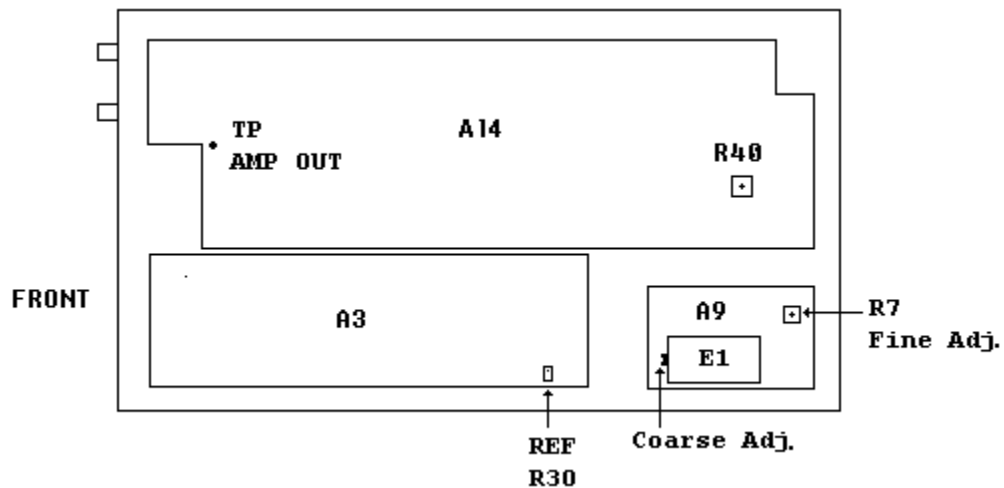

Figure 3. Test instrument - bottom view.
- (1) Disconnect TI rear panel **10 MHz OVEN OUTPUT** from **EXT REF IN** option 001 only.
- (2) Connect frequency counter **CHANNEL A** to TI rear panel **AUX 21-60 MHz**.
- (3) Press keys and enter values using **DATA** keys as listed in (a) through (c) below:
- (4) Adjust REF R30 (fig. 3) until frequency counter indicates 60.000000 MHz (R).
- (5) Disconnect frequency counter from TI rear panel **AUX 21-60 MHz**.
- (6) Connect frequency counter **CHANNEL A** to TI **SIGNAL**.
- (7) Enter **20 MHz** using **DATA** keys. Frequency counter will indicate between 19.99990 and 20.00010 MHz.
- (8) Disconnect frequency counter from TI.
- (9) Perform (10) through (14) below for option 001 only.
- (10) Program time/frequency workstation for a 1 MHz output and connect to frequency difference meter **REF INPUT**.
- (11) Connect TI rear panel **10 MHz OVEN OUTPUT** to frequency difference meter **SIG INPUT**.
- (12) Adjust A9R7 Fine Adj. (fig. 3) and A9 Coarse Adj. (fig. 3) for a minimum indication on frequency difference meter.
- (13) Disconnect TI from frequency difference meter.
- (14) Reconnect TI rear panel **10 MHz OVEN OUTPUT** to **EXT REF IN**.